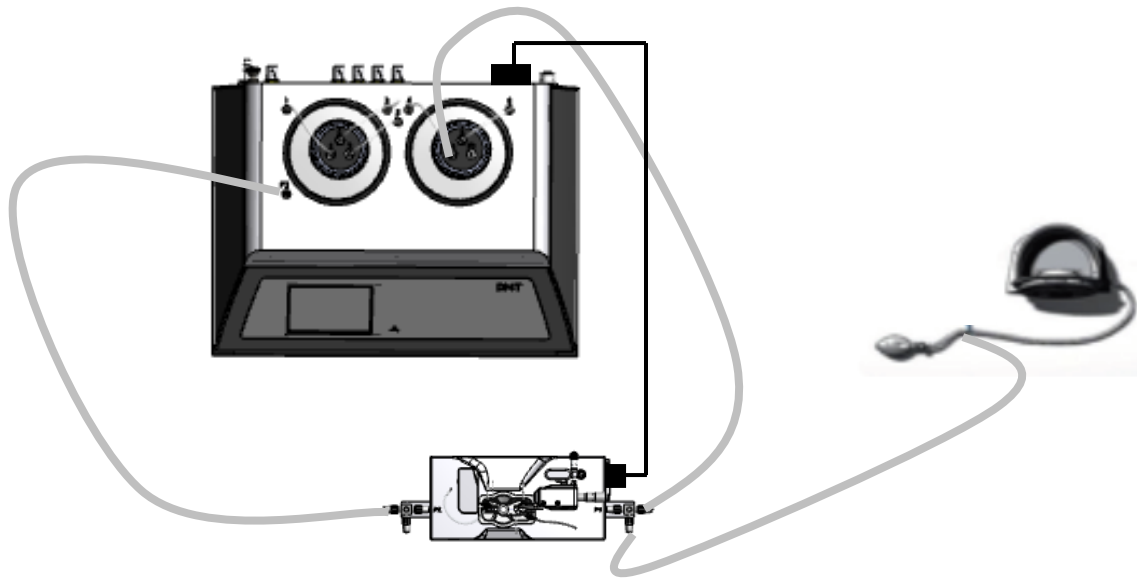

Figure 3.3 Illustration of proper set up for pressure calibration.
Press Settings in the Main Menu and then press Pressure Calibration. The set-up to perform the pressure transducer calibration procedure is illustrated in figure 3.3 Carefully follow the procedure described below to calibrate the Pressure Myograph System. The calibration procedure is listed in 5 individual steps and needs to be performed one at a time to calibrate the system.
2. Connect the Big Ben Pressure Manometer to the 3-way valve at P1 on the Pressure Myograph as illustrated in figure 3.3.